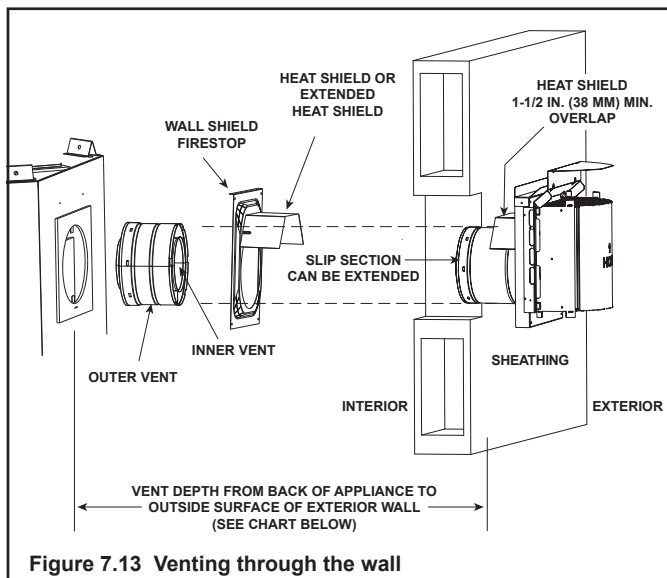

Figure 7.13 Venting through the wall
- **DO NOT** remove the heat shields attached to the wall shield firestop and the horizontal termination cap (shown in Figure 7.13).
There are two sections of the heat shield. One section is factory-attached to the wall shield firestop. The other section is factory-attached to the cap. See Figure 7.13.